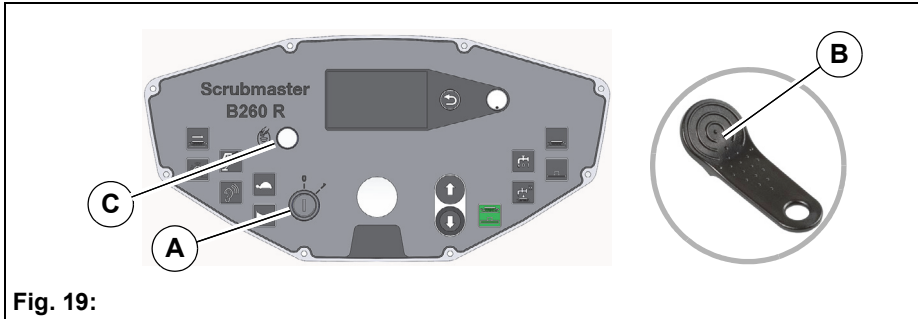

Fig. 19:
1. Turn the machine on with the key switch **Fig. 19-A**.
2. Press the iButton **Fig. 19-B** for one to two seconds against the iButton Reader **Fig. 19-C**.